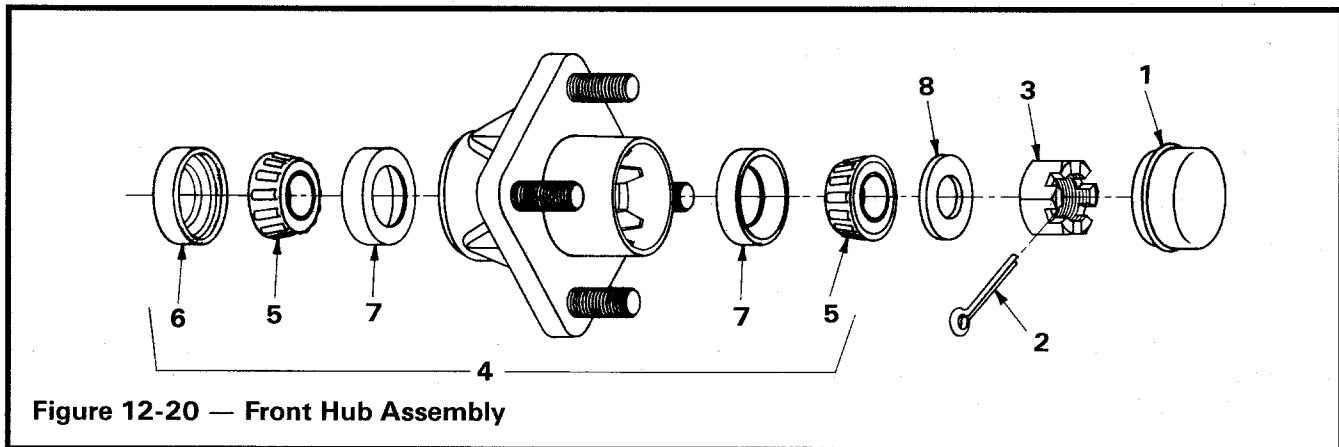

Figure 12-20 — Front Hub Assembly
2. To remove front wheel hubs, remove grease cap (1), cotter pin (2), axle nut (3) and flatwasher (8). Remove hub assembly (4) from axle (**Figure 12-20**).
1. Pack wheel bearings (5) with wheel bearing grease or chassis lube, making sure grease is forced between rollers.
2. If bearing cups (7) were removed, press in new cups squarely against stop in hub.
3. Install wheel bearings (5) inside hub and install new seal (6), with metal edge facing towards hub (**Figure 12-20**).
4. Install hub assembly (4) and flatwasher (8) on axle and start nut (3).
5. Tighten axle nut (3) until hub is hard to turn, back off nut (3) until hub turns freely, install cotter pin (2).